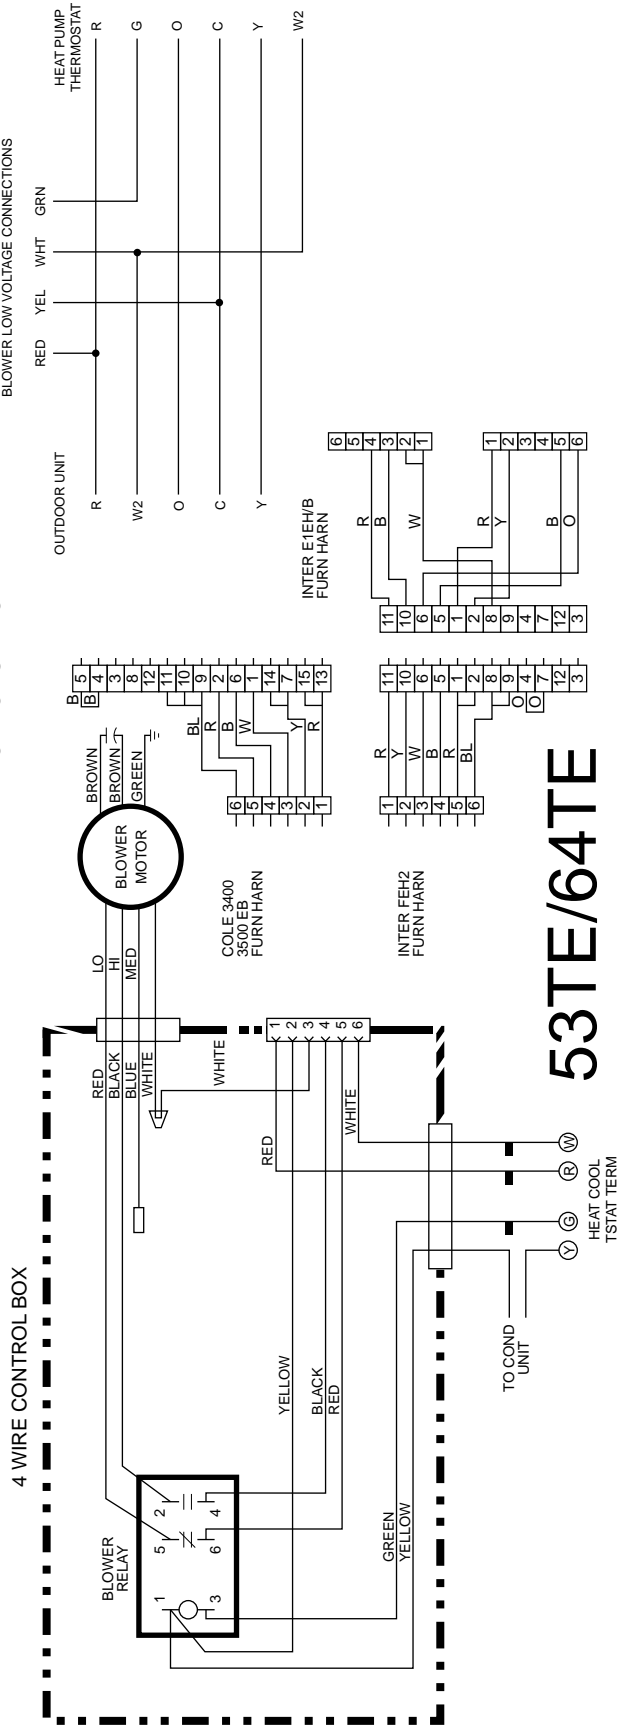

Fig. 5—Wiring Diagram for KMABA05013TE and KMABA06014TE Blowers
1. Refer to Blower Speed Selection Chart and Operation Instructions on Wiring Diagram (Fig. 5) or refer to Table 4.
2. Determine furnace capacity from furnace rating plate and connect appropriate motor lead to blower relay No. 5. (See Fig. 5 or Table 4.)
3. Determine capacity of outdoor unit installed and connect appropriate motor lead to blower relay No. 2. (See Fig. 5 or Table 4.)
4. Review the Operating Instructions and Wiring Diagram. (See Fig. 5.)